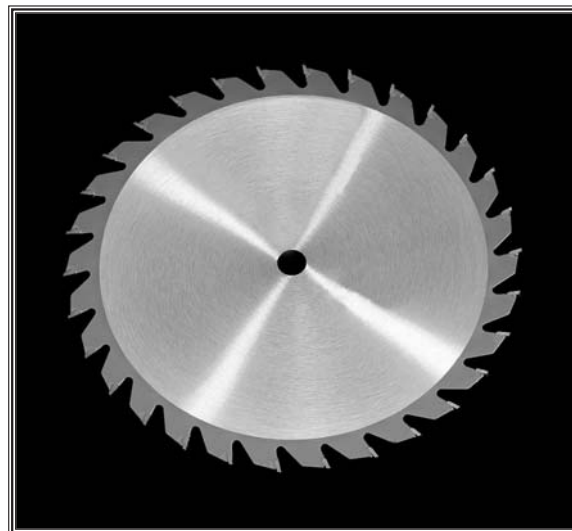

Figure 45. Rip blade.
- **Figure 45** shows an example of a rip blade. This style of blade typically has between 30-40 teeth and provides fast feed rates when making long cuts with the grain. The rip blade has large teeth that provide excellent chip clearance and minimize the chances of binding. The drawback to this type of blade is the rough cuts left by the large teeth.